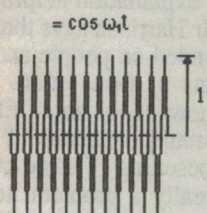
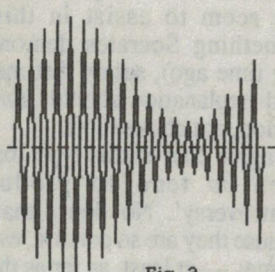

Fig. 1
Fig. 3
*The waveform is due to the addition of the sidebands and the carrier, with the resulting amplitude waveform displayed on the screen. If we look at Fig.1, this*
*Fig.3 is the next instant in time, and the same as in Fig.1, while in Fig.4 the two sidebands add to the carrier amplitude and result in an increase in the signal on the CRO screen, over that of the unmodulated CW signal.*
To consider amplitude modulation of a carrier, it is convenient to take the normal (unmodulated) amplitude of the carrier as unity, [Fig. 1],
So complete signal =  $\cos \omega_1 t \times (1 + p \cos \omega_2 t)$  [Fig. 3]